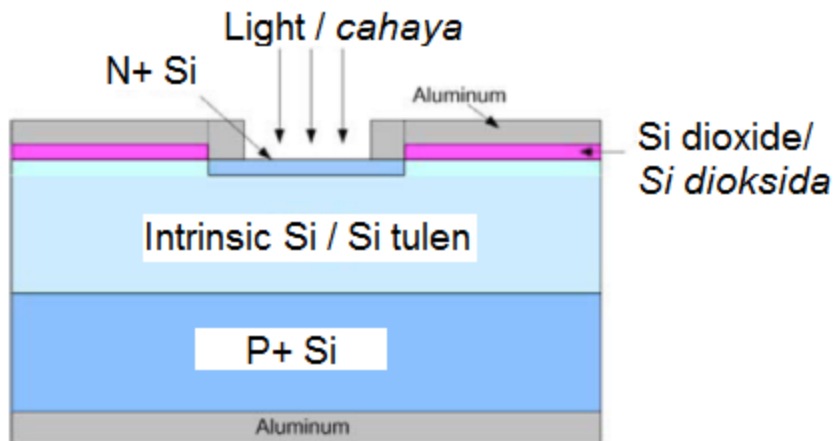

Figure 1: P-I-N diode structure / *Rajah 1: Struktur diod P-I-N*
4. For doping a thin layer on a silicon wafer to form a P-I-N (P-type – intrinsic – N-type) diode structure as shown in schematic (Figure 1), the following processes are involved: preparation masking oxide (thickness is 500 nm), lithography, etching, photoresist stripping and then the application of dopant.